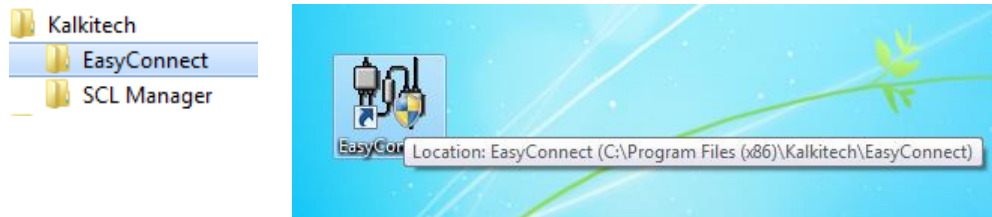

Figure E-11: EasyConnect Installation folder & shortcut
1. Start the EasyConnect software application (navigate to the 'Kalkitech\EasyConnect' folder and double-click the **EasyConnect.exe** file or use the EasyConnect shortcut as shown in Figure E-11.